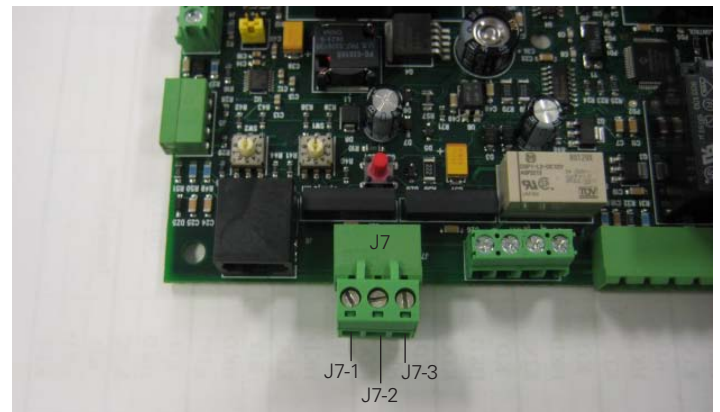

Figure 13. Dry Contacts
- Step 3: If your generator is a two wire start type generator that requires a contact closure or open to provide the start signal then connect the 2 wires to the connector located on J7. J7 is a form C contact that can be utilized for either form of two wire start circuits. If a contact closure is required for engine start, connect the two wires to J7-1 and J7-2. If a contact open is required for engine start, connect the two wires to J7-2 and J7-3 (see Figure 13).